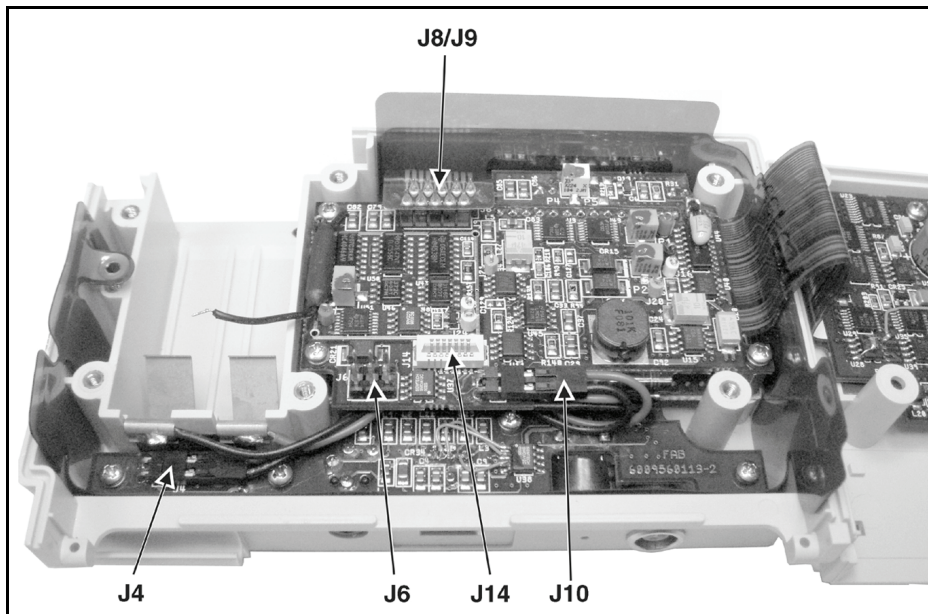

Figure 6-24. Installed Secondary & Connector PCBs
9. In the Front Case, carefully move the AC connector cable out of the way, then gently place the Connector PCB into position as shown in Figure 6-24.
11. Secure the Connector PCB onto the Front Case using four 2-56 X 1/4" Pan Head Screws and four #2 Lock Washers as shown in Figure 6-24. Torque screws to 22 - 28 in-oz.
12. Refer to Figure 6-24. Plug the 2-pin AC connector into J4 on the Connector PCB with the Black wire toward the outside of the Pump.